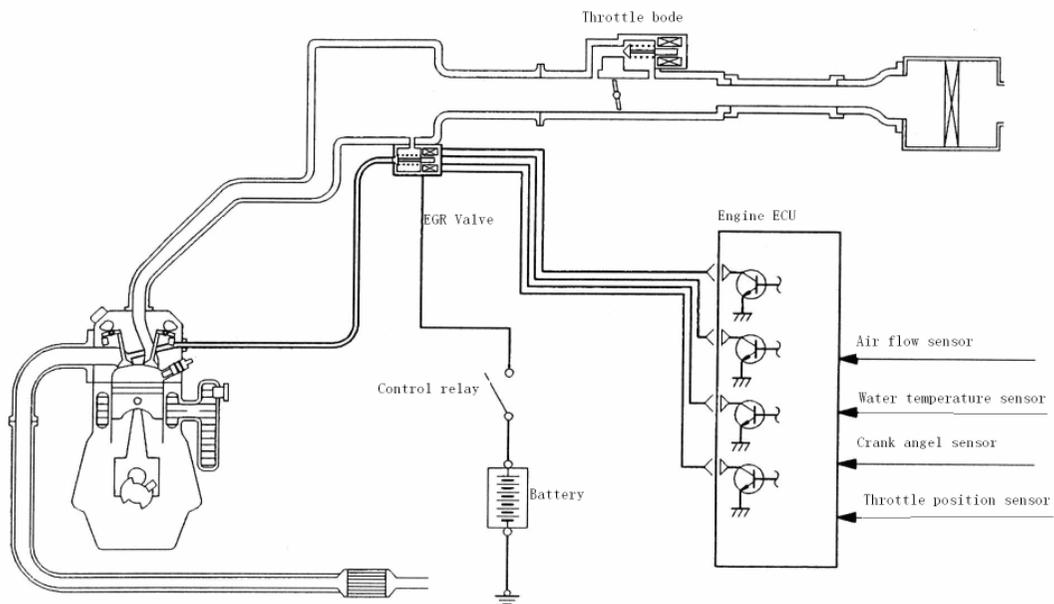

Fig. 10-14
4) EXHAUST GAS RECIRCULATION (EGR) SYSTEM(see Fig.10-14)